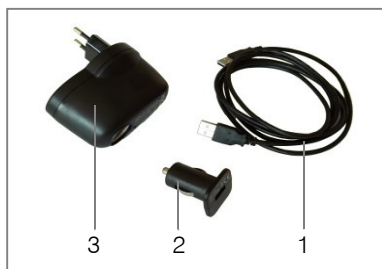

Figure 8
Lithium polymer battery pack should be charged only by means of the supplied accessories (Figure 8). Accessories for charging the battery pack – USB cable (1), USB car charger (2) and AC/DC adapter (3) – are placed in the carrying case.